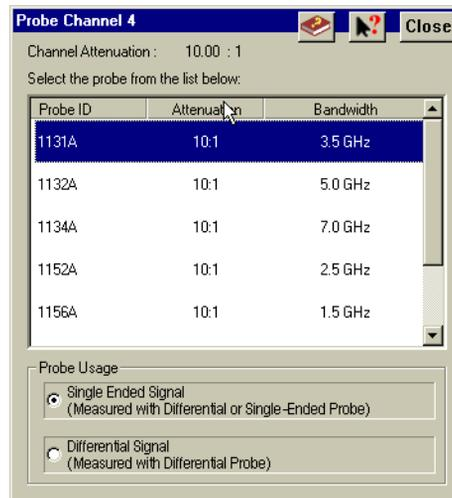

Figure 1. Probe Channel Dialog Box
- 4 If the Infiniium DCA is in operation, the **Probe Channel** dialog box will appear on the instrument display screen. See Figure 1 on page 7.